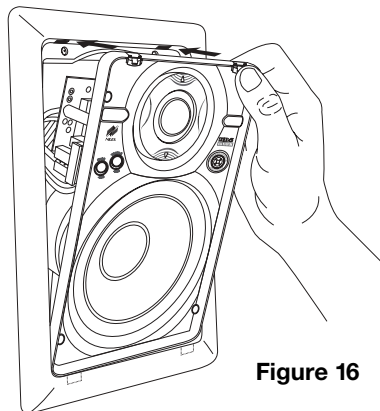

Figure 16
5. Place the speaker baffle in the frame by inserting the tabs at the base of the speaker baffle into the corresponding holes in the frame and pushing the speaker forward until the snaps engage (See Figure 16).